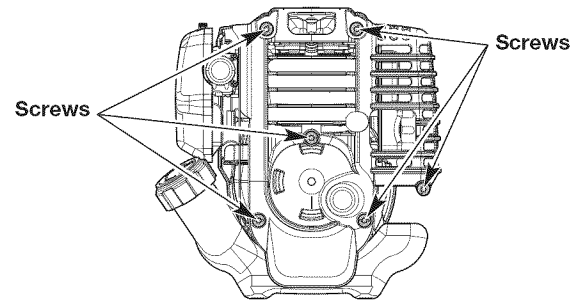

Fig. 24
1. Remove the 6 screws from the engine cover with a flat-head screwdriver or T-25 Torx screwdriver (Fig. 24). Remove the engine cover.
2. Remove the 6 screws from the engine cover with a flat-head screwdriver or T-25 Torx screwdriver (Fig. 24). Remove the engine cover.